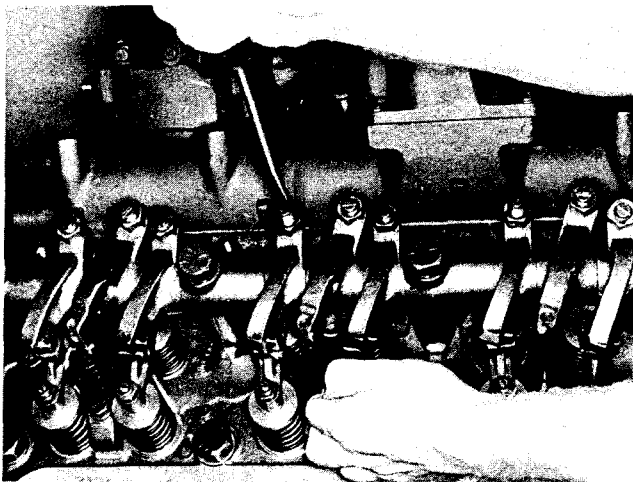

Fig. 2-42 (V51492) Adjusting valves
1. Loosen locknut and back off adjusting screw. Insert feeler gauge between rocker lever and top of crosshead. Valve clearances are; Intake 0.012 inch [0,30 mm], Exhaust 0.022 inch [0,56 mm]. Turn screw down until lever just touches gauge and lock adjusting screw in this position with locknut. Fig. 2-42. Torque locknut to values indicated in Table 2-7.